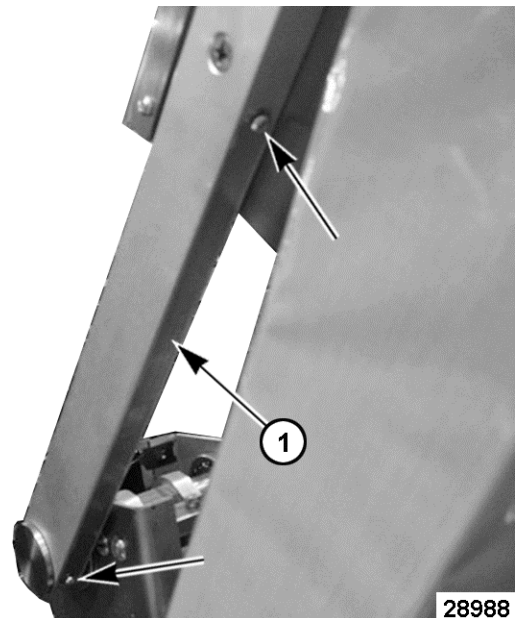

Fig. 31
3. Fully raise platen to access the left arm wireway cover (1, Fig. 31) then remove the cover.